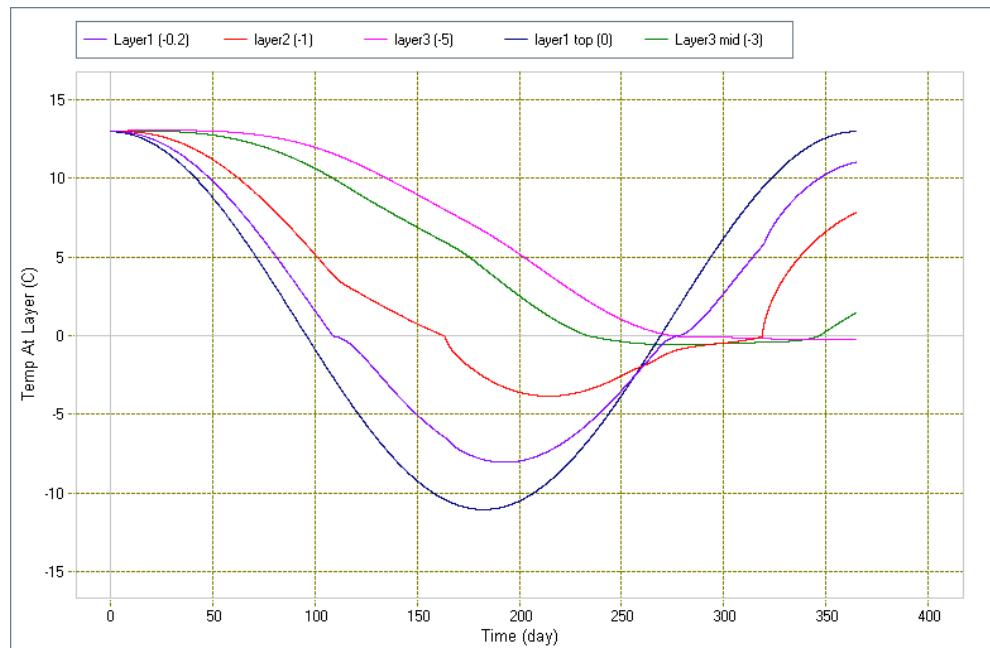

Figure 6 Temperature distribution at different locations.
4. Select the row with title of "TempAtEachLayer" from the data grid table, double click the selected row. The temperature changing at different location is illustrated in Figure 6.